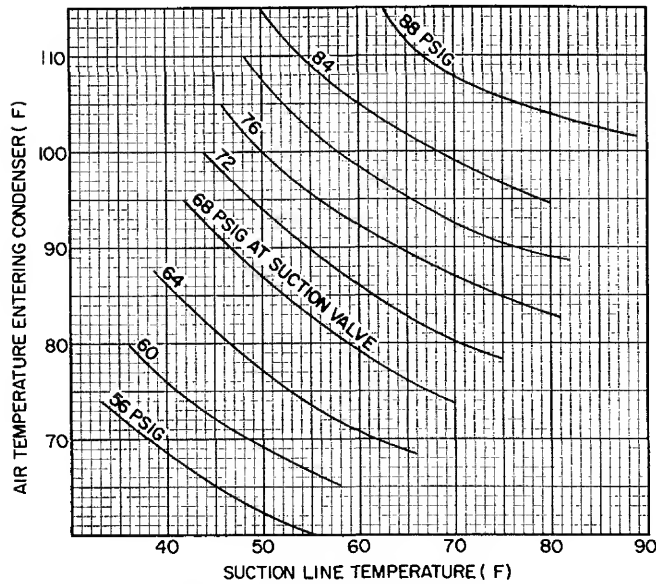

Fig. 6 – 38SE Charging Chart
38SE CAPILLARY TUBE OR ACCURATER™ SYSTEMS — Use Charging Chart, Fig. 6, and the following procedure:
5. Refer to Charging Chart (Fig. 6). Find condenser air temperature and project horizontally to curve showing suction pressure.